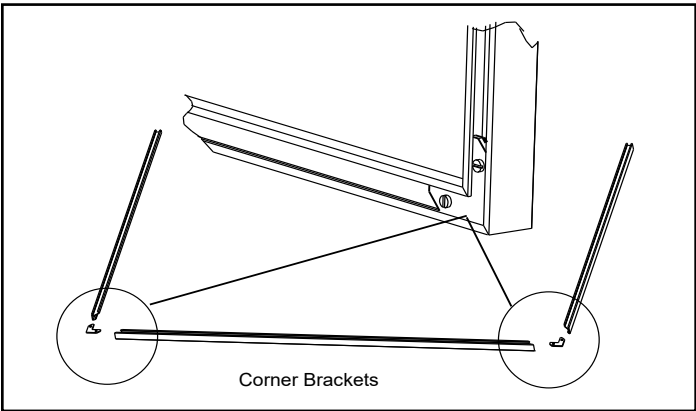

Figure 5.7
2. Assemble trim as shown in Figure 5.7.